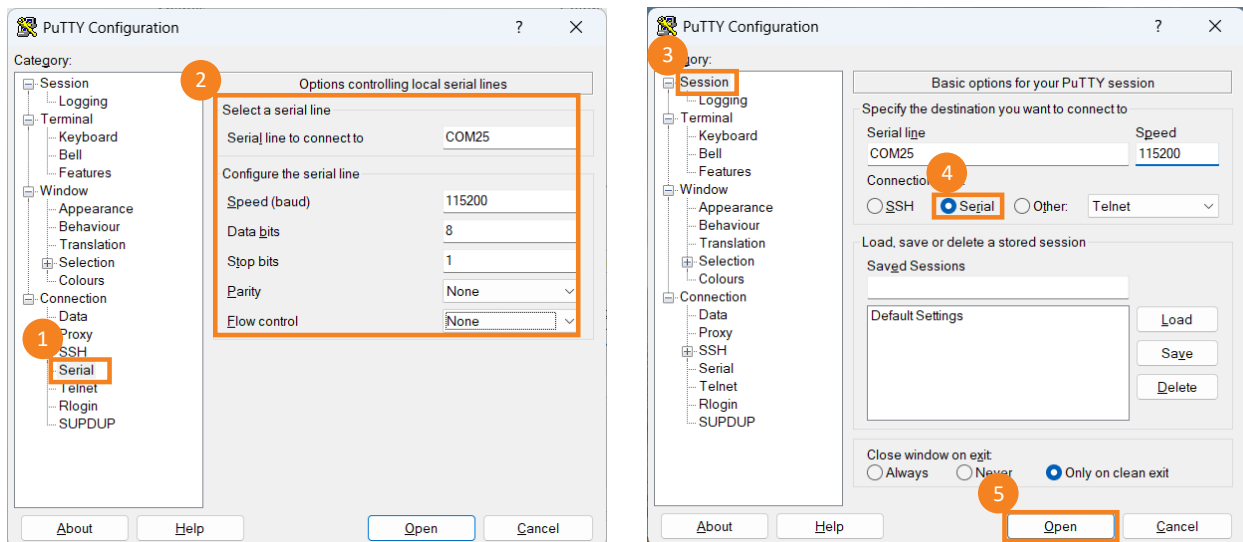

Figure 5.19. PuTTY Configuration to Open COM Port
- Follow the steps as shown in Figure 5.19 to open the selected COM port with PuTTY. COM settings for PuTTY are stated below.